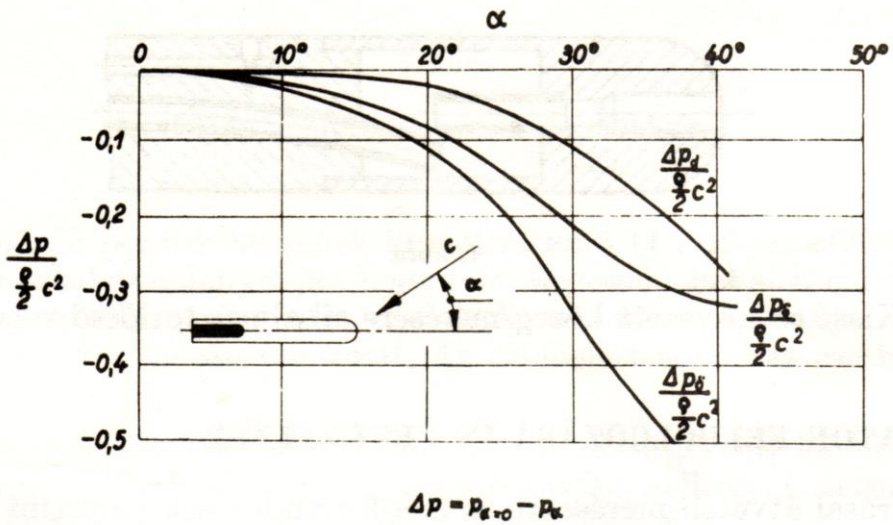

Fig.3.2.: Directional sensitivity of the Prandtl tube. The Prandtl tube can only be used for measurement if $\alpha < 15^\circ$.
If Reynolds number $Re_D > 3000$ (see eq. (10)), than $C=1$. The standard Prandtl tube is less sensitive to the direction of flow, see Fig.3.2.